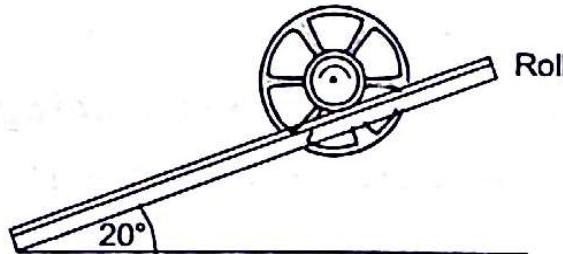

Fig. 19.15
- 19.1 A flywheel of centroidal radius of gyration 0.5 m is rigidly attached to a shaft of radius 25 mm which may roll along parallel rails inclined at an angle of 20° as shown in Fig. 19.15. The system is released from rest. What is the velocity of the centre of the shaft after it has moved 2 m along the rails?